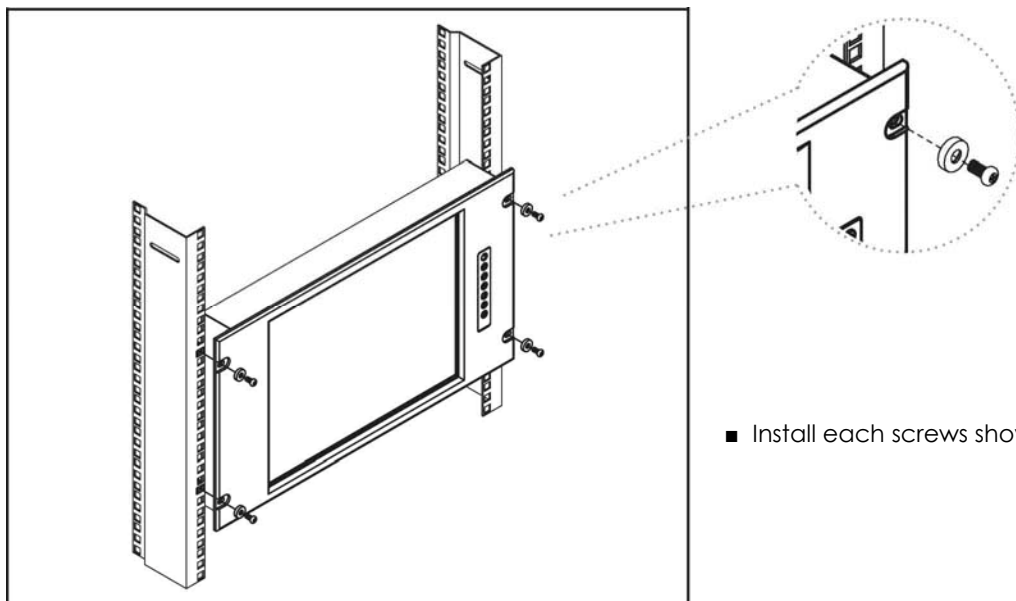

Figure 10.
- Install each screws shown in **Figure 10**.